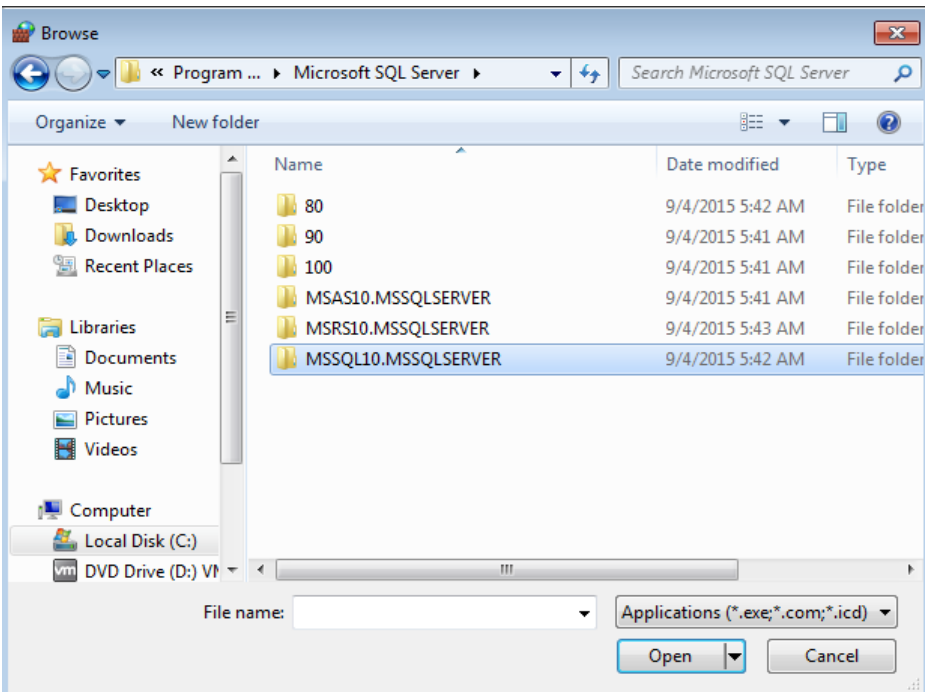

Fig.1.21 Microsoft SQL Server
(8) Open MSSQL10.MSSQLSERVER folder (see Fig.1.21).